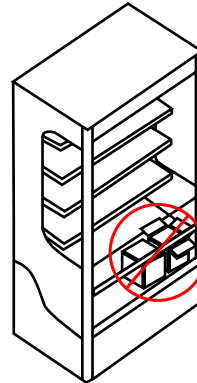

Figure 6
- Do not block the return vents that ensure a proper refrigerated air circulation. (Fig. 6)